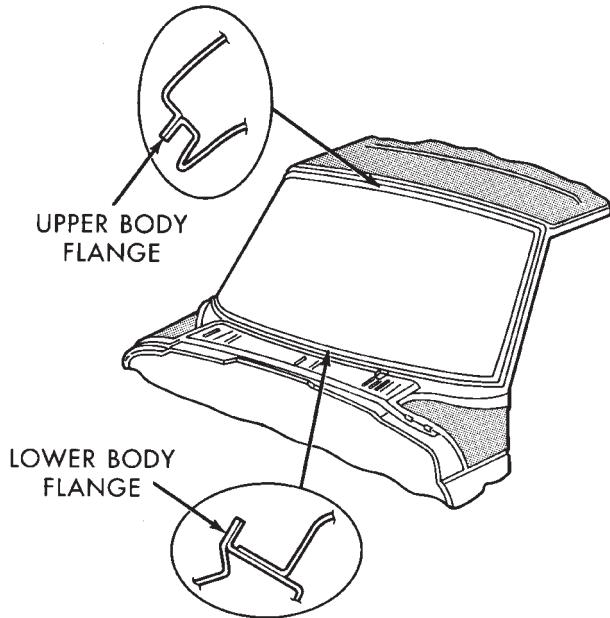

Fig. 11 Pinchweld Flanges
(1) Inspect the windshield opening pinchweld flanges (Fig. 11). Prime any bare spots with urethane primer. Allow a minimum of 18 minutes for dry time.
- (1) Remove the all of urethane from all pinchweld flanges. Use an electric hot knife and a plow-type knife blade to remove the adhesive.
- (2) Inspect and repair the windshield opening and pinchweld flanges (Fig. 11).